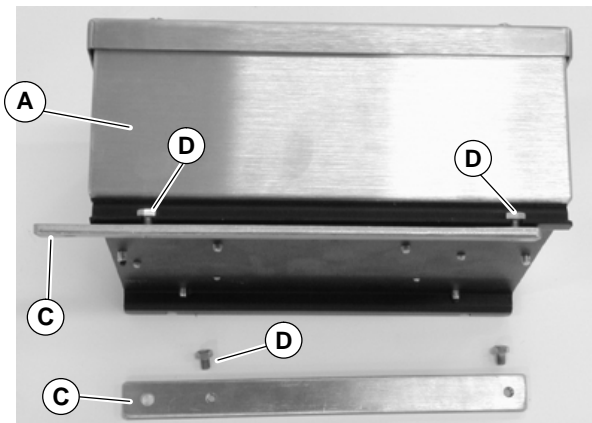

Figure 4
2. Attach mounting bars (C of Figure 4) to controller (A) with screws (D).